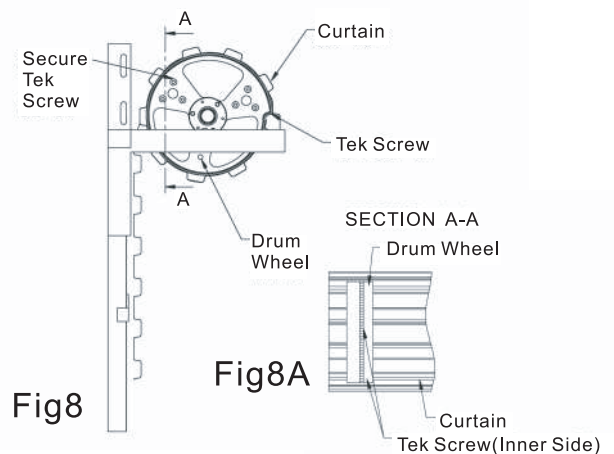

Fig8
- w) Final Security - Fully close the door, mark the corrugation just before the Curtain leaves the top roll, drill through the Curtain and the Drum wheel rim, and apply a 'pop rivet' or self tapping screw. This must be done at both ends of the door (Fig. 8).